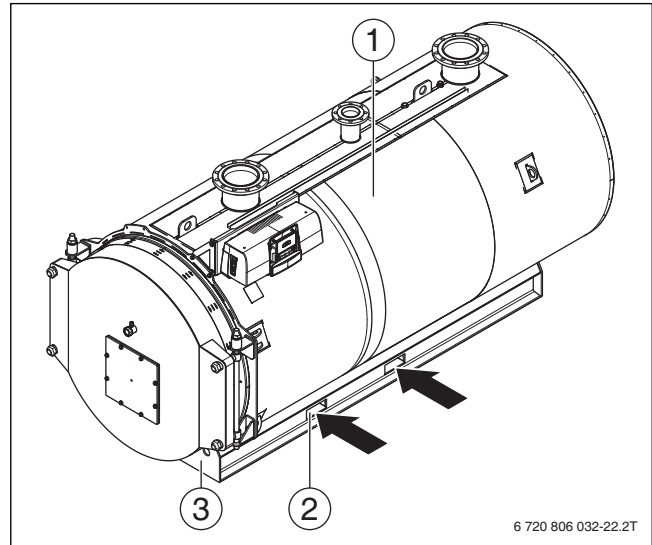

Fig. 10 Transporting the boiler with a forklift truck
- ▶ Use the openings provided for a forklift truck (→ Fig. 10, [2]).
- ▶ Transport the boiler with the forks inserted into the openings in the base frame (→ Fig. 10, [2]).